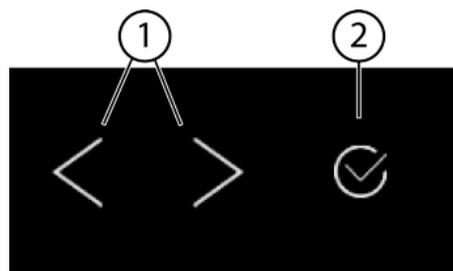
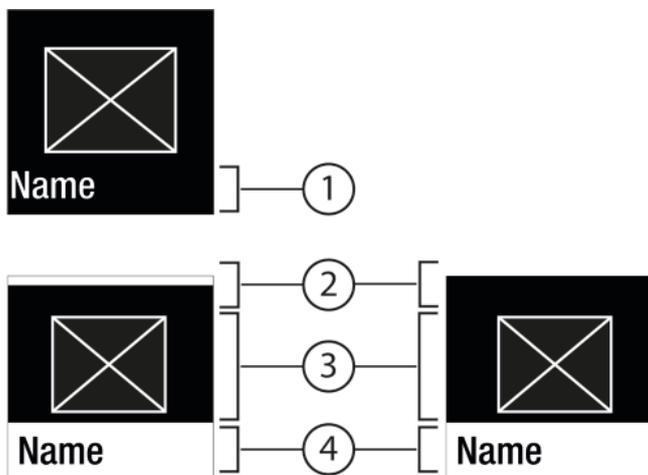

Fig. 5
*Fig. 6*
(1) Left/right navigation arrow
(2) Confirm
**Left/right navigation arrow Fig. 5 (1):**
**Confirm Fig. 5 (2):**
- Navigate with the left/right navigation arrow *Fig. 5 (1)*.
- Press Confirm *Fig. 5 (2)* to activate *Fig. 6 (1)* / deactivate *Fig. 6 (1)* the function/setting.
- Press Confirm *Fig. 5 (2)* to go to the submenu *Fig. 7 (4)*.
- Set new level: Press Confirm *Fig. 5 (2)* to select a deselected value *Fig. 6 (1)*.
- Back to menu: Press Confirm *Fig. 5 (2)* to select the selected value *Fig. 6 (2)*.
- ▶ Press the navigation arrows *Fig. 5 (1)* until appears.
- ▶ Press Confirm *Fig. 5 (2)*.
- ▶ Press the navigation arrows *Fig. 5 (1)* until the function appears.
- ▶ Use the navigation arrows *Fig. 5 (1)* to select the setting value.
- ▶ Press *Fig. 5 (2)* confirm.
- ▷ Status: on *Fig. 6 (1)* appears briefly in the submenu *Fig. 7 (4)*.
- ▶ Press the navigation arrows *Fig. 5 (1)* until Settings  appears.
- ▶ Press the navigation arrows *Fig. 5 (1)* until you can see the setting you want.
- ▶ Press Confirm *Fig. 5 (2)* for 3 seconds.